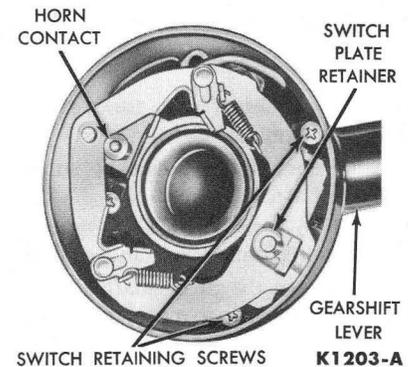

FIG. 13—Horn Button Contact
5. Remove the turn indicator lever, remove the turn indicator mechanism retaining screws (Fig. 13), and lift the mechanism to one side.
5. Remove the turn indicator switch to steering column retaining screws and pull the switch away from the steering column flange (Fig. 13).